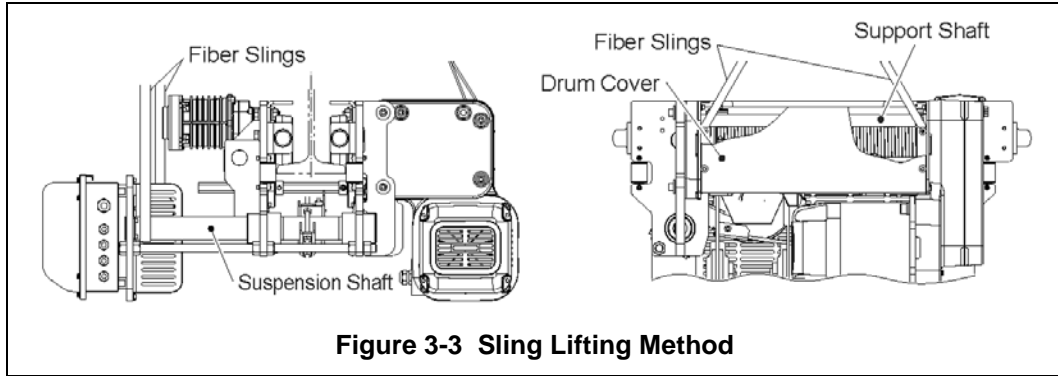

Figure 3-3 Sling Lifting Method
- 3.2.2 Lift points – When a pallet is not practical, use of the RY lifting points or the trolley frame is acceptable. The RY trolley hoist is equipped with threaded lifting lugs in the horizontal tubes (see **Figure 3-2** and **Figure 3-3**). While lifting do **NOT** support the trolley hoist any other way.